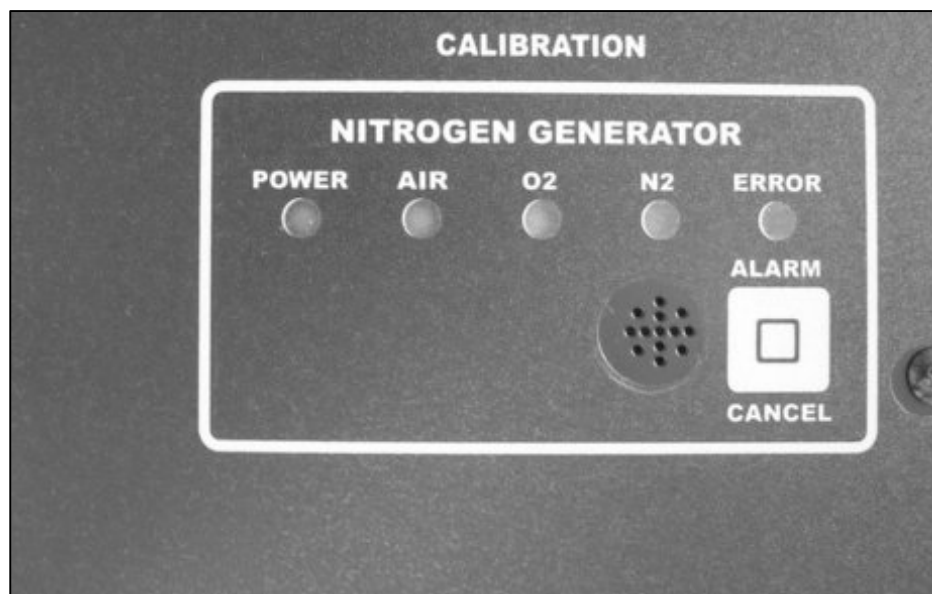

Figure 2
11. Nitrogen Generator Diagnostic Lights: These lights inform the operator of the status of the self-calibration process as well as Tester readiness. (Figure 2)